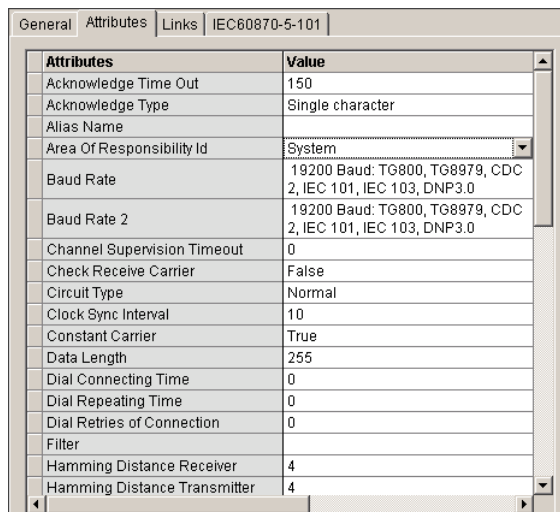

Figure 3-2.5: Attributes of the Instance Type 'CfeSingleCircuitExtendedInterface' (Extract)
5. Select tab **Attributes** or, which is more convenient, the protocol-specific tab and adjust the parameters. Figure 3-2.5 shows the tab 'Attributes'.